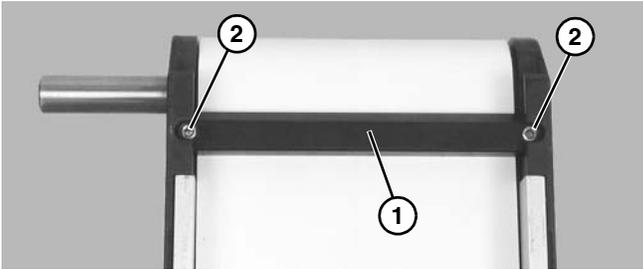

Figure 34
3. If equipped, remove bottom wipers (**Figure 34, item 1**): Remove fastening screws (**Figure 34, item 2**) then remove wiper (**Figure 34, item 1**).